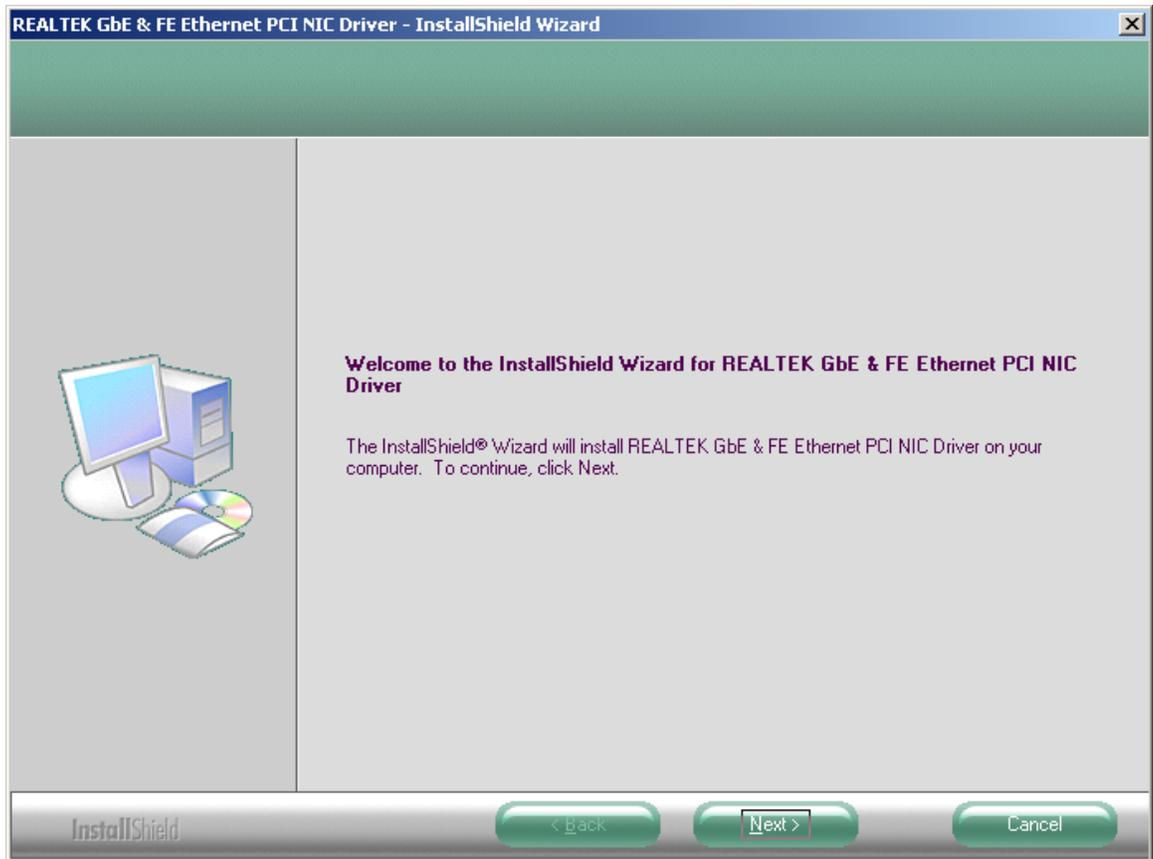

Figure 6-27: LAN Welcome Screen
Step 7: The welcome screen appears. Click “Next” to continue. See **Figure 6-27**.